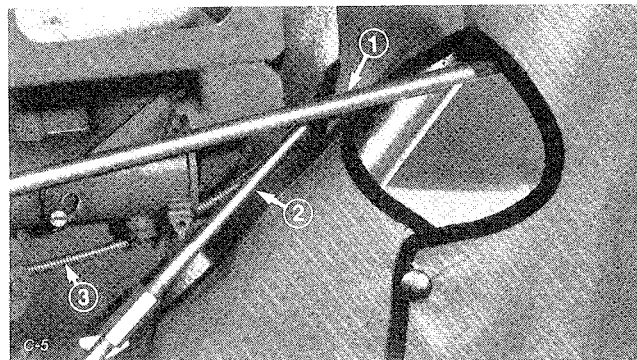

Figure 8
2. Snap bottom of shell under chute control rod. Tie bottom under clutch rods and throttle cable (Fig. 8).